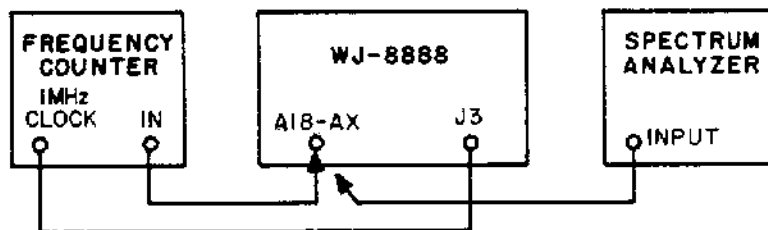

Figure 5-10. Test Setup, 3rd LO Performance Test
- (1) Remove circuit board (A3) from its socket and disconnect P10 from J17.
- (2) Connect the equipment as shown in Figure 5-10.
- (3) Set the rear panel clock switch to INT.
- (4) Frequency shown on the counter must be 11.155 MHz \pm 1 Hz.
- (5) Connect the spectrum analyzer in place of the counter.